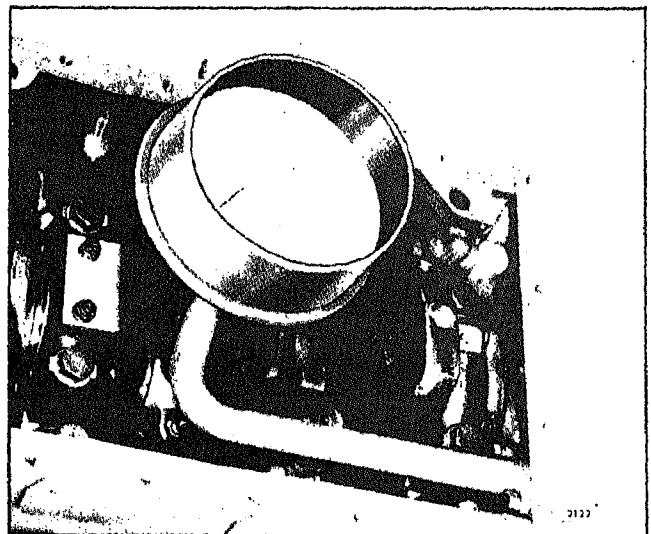

Fig. 2 - Typical Oil Pump Inlet Pipe and Screen Mounting
4. Refer to Fig. 2 and remove the four bolts which attach the oil pump inlet pipe and screen assembly to the main bearing cap and engine front cover or oil pump inlet elbow. Slide the flange and the seal ring on the inlet pipe and remove the pipe and screen as an assembly. Remove the oil pump inlet elbow (if used) and gasket from the engine front cover.